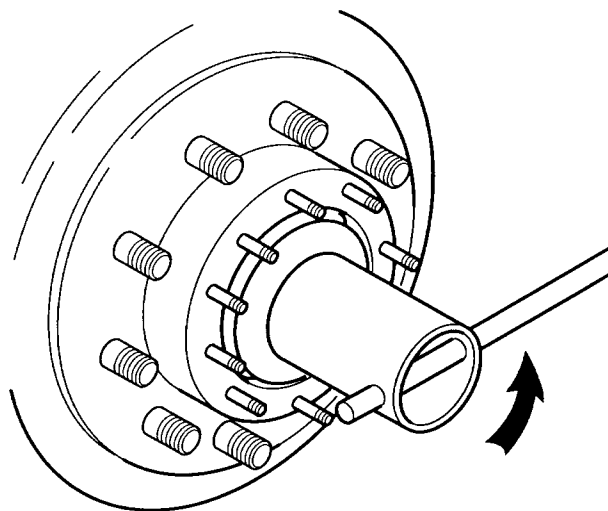

Figure 5 Removing Wheel Bearing Nut
4. Remove wheel bearing nut. (See Figure 5).